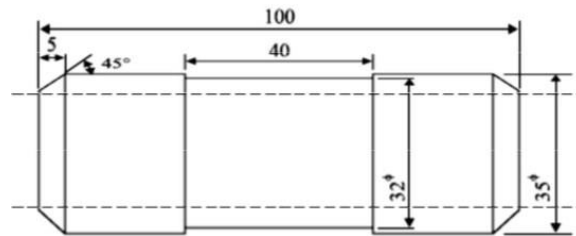

Fig.7
9. A mild steel bar 100 mm long and 38 mm in diameter is turned to 35 mm dia. And was again turned to a diameter of 32 mm over a length of 40 mm as shown in the Fig.7. The bar was machined at both the ends to give a chamfer of  $45^\circ \times 5$  mm after facing. Calculate the machining time. Assume cutting speed of 60 m/min and feed 0.4 mm/rev. The depth of cut is not to exceed 3 mm in any operation.